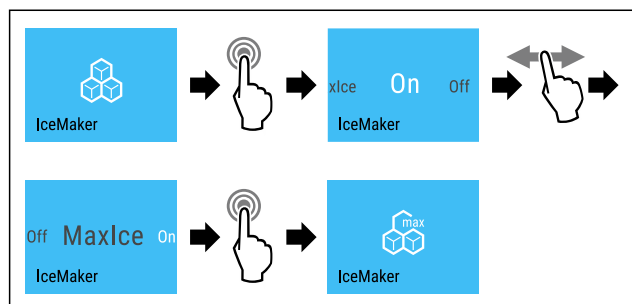

Fig. 18
- Complete the steps (see Fig. 18) .